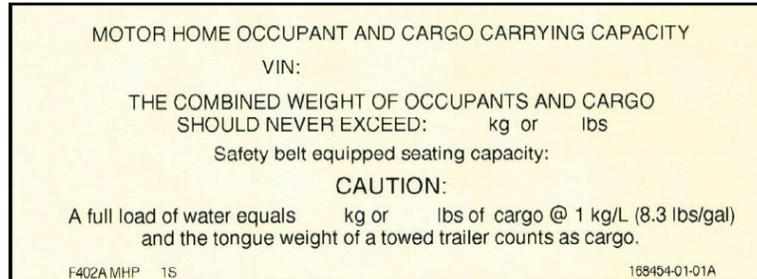

Figure 1
In addition to the standard certification label, Winnebago Industries is implementing the new federal “MOTORHOME OCCUPANT AND CARGO CARRYING CAPACITY” label (See Figure 1). The new label provides the motor home’s occupant and cargo carrying capacity (OCCC) along with the number of seat belt positions in the vehicle (Safety belt equipped seating capacity).
1. A permanent OCCC label (See Figure 1) in the driver’s area next to or near the certification label.